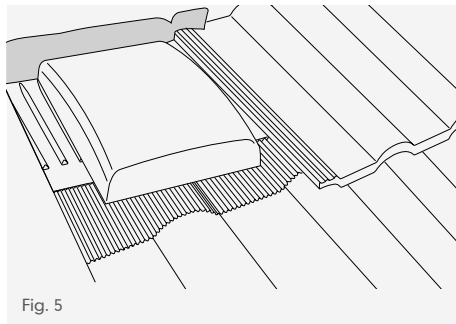

Fig. 5
- 7 Finish tiling. The tiles immediately adjacent to the tile vent will compress the foam upstands creating a weatherproof seal. Ensure the cutaway in the back edge of the foam is laid over the lock of the adjacent right hand tile (Fig. 5).